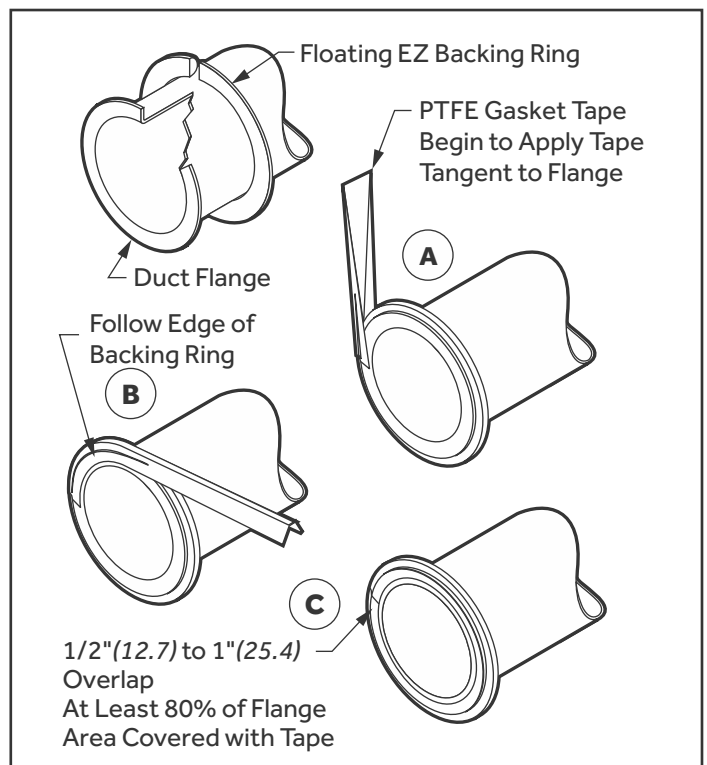

Fig. 13: Apply gasket for 4" - 14" (101.6 - 355.6) EZ duct
1. Install Gasket: If the duct or fitting joint already has gasket tape applied, skip this step. To begin, slide the backing ring firmly against the flange. The PTFE gasket is now applied which comes as an adhesive backed tape. Start (A) by applying the tape to the flange surface first at an angle.
tangent to the duct opening. Firmly press the tape onto the flange. There will be enough width to the tape so that you will be able to press the tape onto the back side of the backing ring. Holding the end of the tape firmly in place, continue applying the tape (B) by pulling and tacking it along the edge of the backing ring. To complete this process, (C) overlap the tape ends 1/2" to 1" (12.7 - 25.4). Then go back and firmly press the tape onto the flange and backing ring to guarantee complete adhesion. The gasket tape has a secondary function of holding the backing ring firmly against the flange. Make sure that at least 80% of the flange surface area is covered with the sealant tape. (Fig. 13)